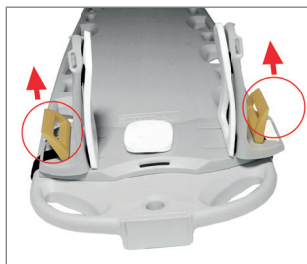
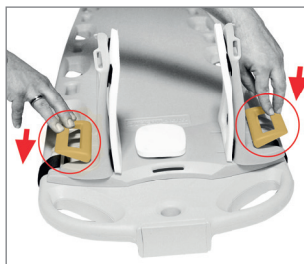

Figure 2a
Figure 2b
4. To arrest, push both handles downwards. (Figure 2b). For possible adjustments, pull the handles upwards and adjust the restraint frames (Figure 2a).